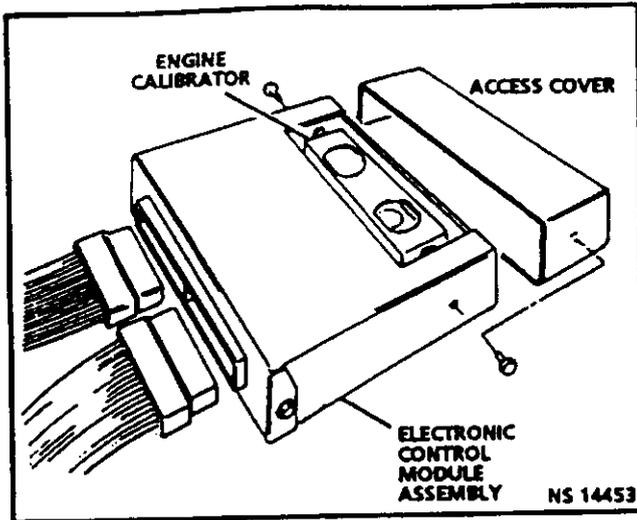

Figure 3.1-3 Electronic Control Module Engine Calibrator Access Cover
4. Engine calibrator access cover. (See Figure 3.1-3.)
LOCATION: Under access cover of electronic control module. (Figure 3.1-3).